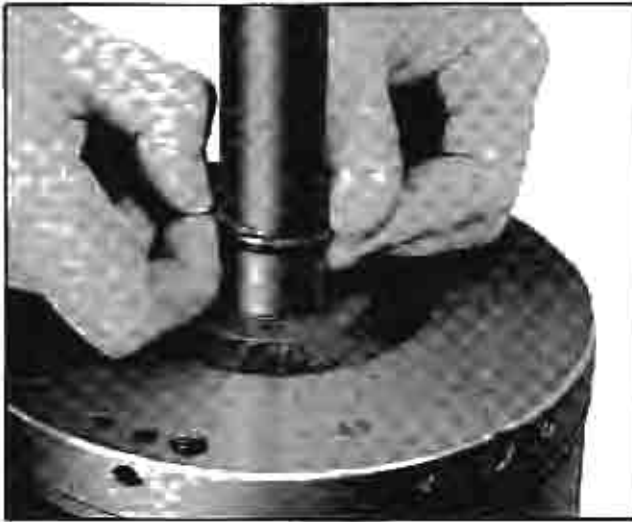

Fig. 99 Installing Hook Type Oil Ring on Intermediate Shaft
32. Install hook type oil seal ring on intermediate shaft (Fig. 99).